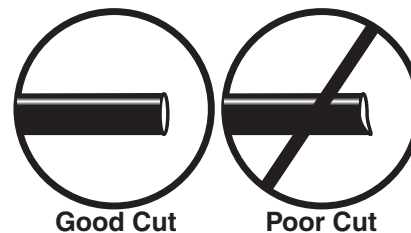

fig. 28
WHEN CUTTING OR TRIMMING THE AIR LINE, USE A HOSE CUTTER, A RAZOR BLADE, OR A SHARP KNIFE. A CLEAN, SQUARE CUT WILL ENSURE AGAINST LEAKS. DO NOT USE WIRE CUTTERS OR SCISSORS TO CUT THE AIR LINE. THESE TOOLS MAY FLATTEN OR CRIMP THE AIR LINE CAUSING IT TO LEAK AROUND THE O-RING SEAL INSIDE THE ELBOW FITTING (FIG. 28).
- a. Check the air line connection by deflating the spring and removing the line by pulling the collar against the fitting and pulling firmly on the air line. Trim 1" off the end of the air line. Be sure the cut is clean and square (see fig. 28). Reinsert the air line into the push-to-connect fitting.